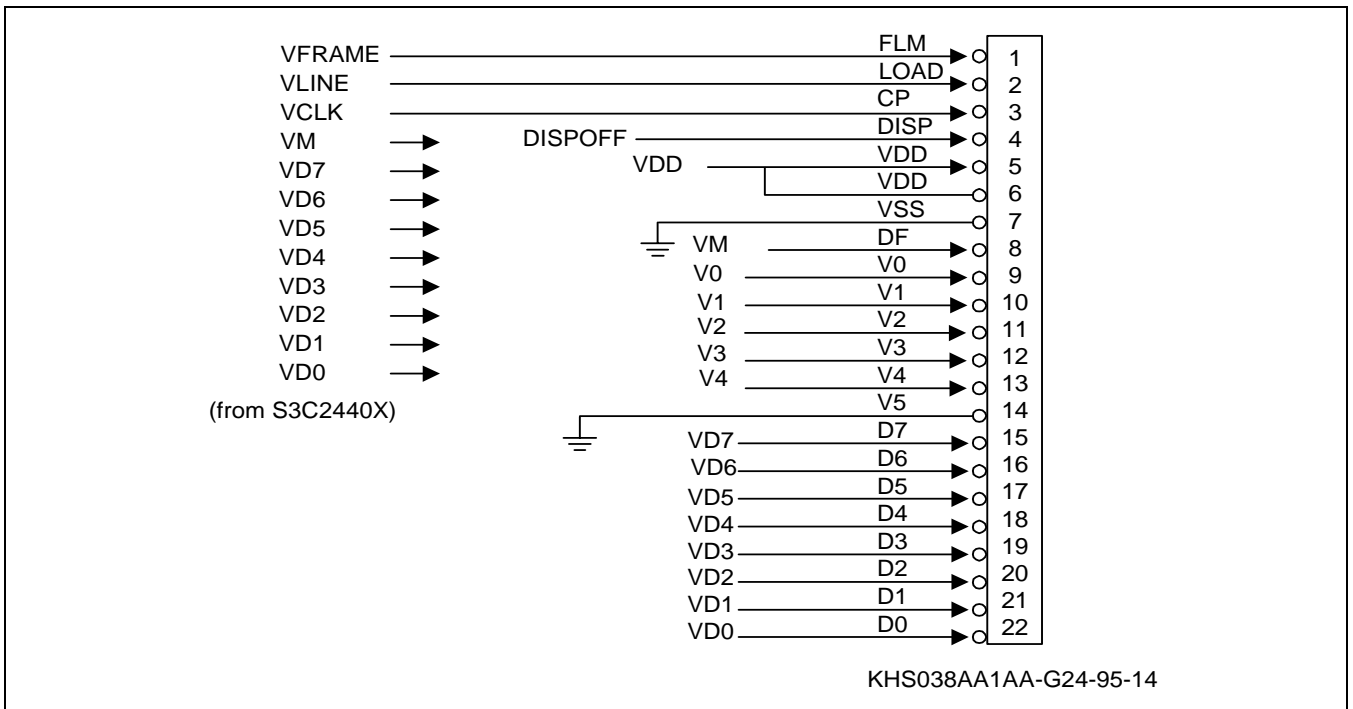

Figure 4-17. KHS038AA1AA-G24 Connection with S3C2440A (256 Color STN LCD)
- LTS350Q1-PE1 (256K color TFT LCD) from SAMSUNG ELECTRONICS CO., LTD. (refer to Figure 4-17)